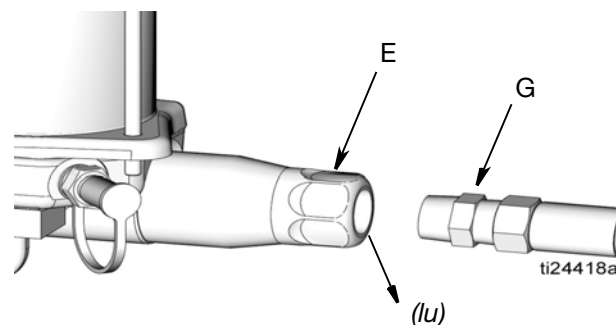

FIG. 7
3. Disconnect the lubricant supply line (G) from the pump outlet (E) (FIG. 7).
5. Run the pump a few strokes until grease (*gr*), free of air, comes out of the pump outlet (E) (FIG. 7).